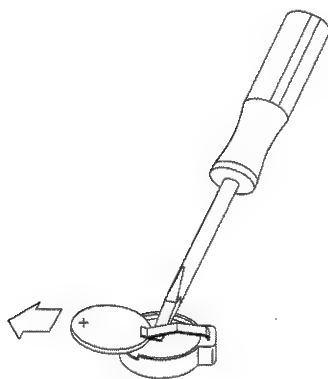

Figure 7-10: Removing the Backup Battery
2. Once the battery starts to slide out, push against the edge of the battery with the screwdriver blade until the battery is completely out. Figure 7-10 illustrates this action.